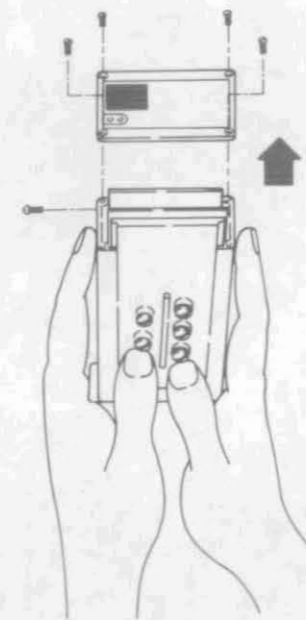

Figure 8
1. Remove the four screws holding cover to housing (Figure 8). Remove small screw from upper side.